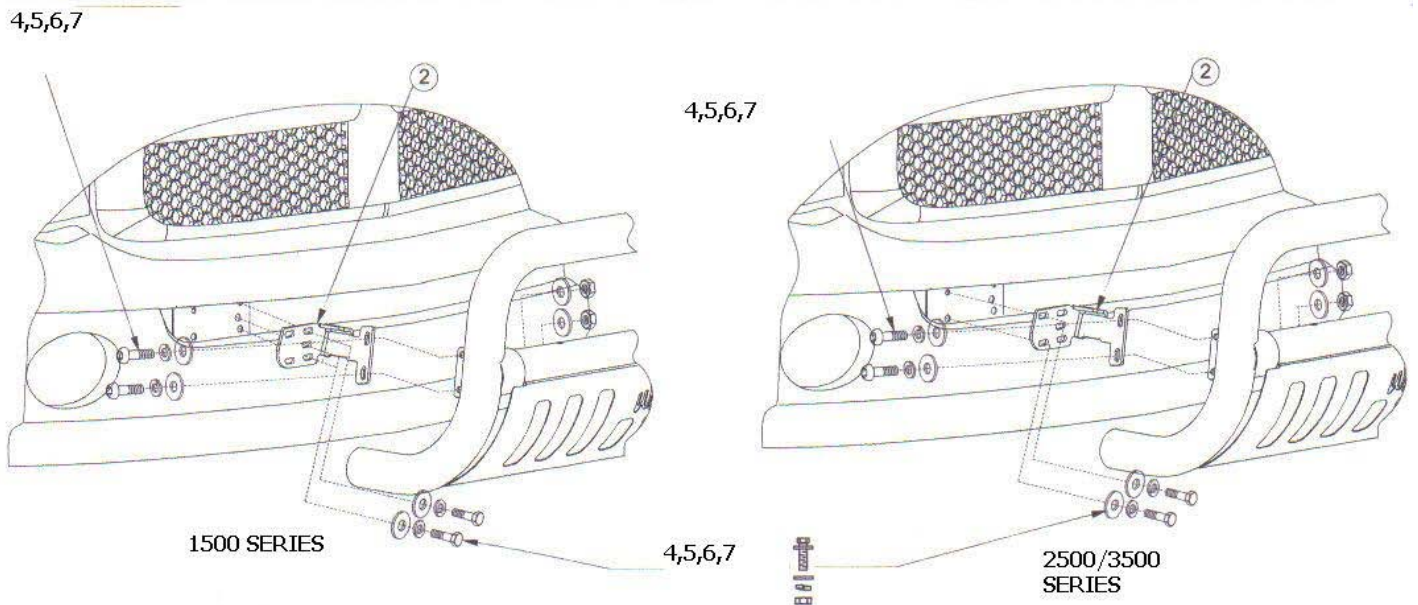

FIGURE 3-INSTALLATION VIEW OF PASSENGER SIDE, DRIVER SIDE OPPOSITE
STEP 3 DETERMINE PASSENGER AND DRIVER BRACKETS. SEE FIGURE 3. REMOVE TOW HOOKS. KEEP FASTENERS FOR REINSTALLATION.
STEP 5 LOCATE FOUR HOLES ON FRAME BRACKET. POSITION BRACKETS TO TWO HOLES CLOSEST TO THE OUTSIDE OF VEHICLE. NOTE: 1500 MODELS USE TWO INSIDE SLOTS. 2500/3500 MODELS USE OUTSIDE MOST SLOTS. VEHICLES WITH TOW HOOKS USE FACTORY FASTENERS TO ATTACH BRACKETS, OTHERWISE USE 3/8" FASTENERS. LEAVE LOOSE. SEE FIGURE 3.
STEP 6: ATTACH BULL BAR TO BRACKETS USING 3/8" FASTENERS AS SHOWN. MAKE SURE MOUNT TABS ON HOOP ARE INSIDE BRACKETS. LEAVE LOOSE. SEE FIGURE 3.